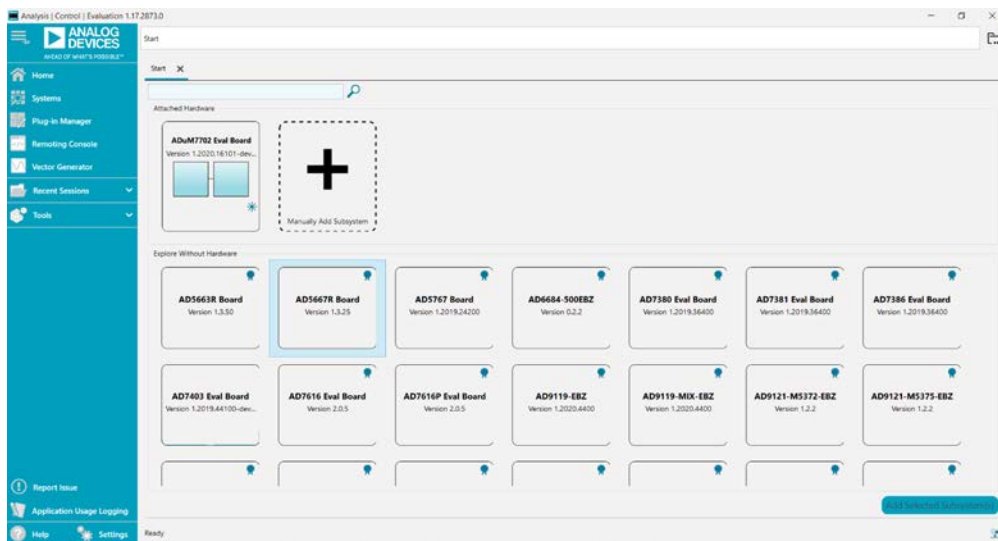
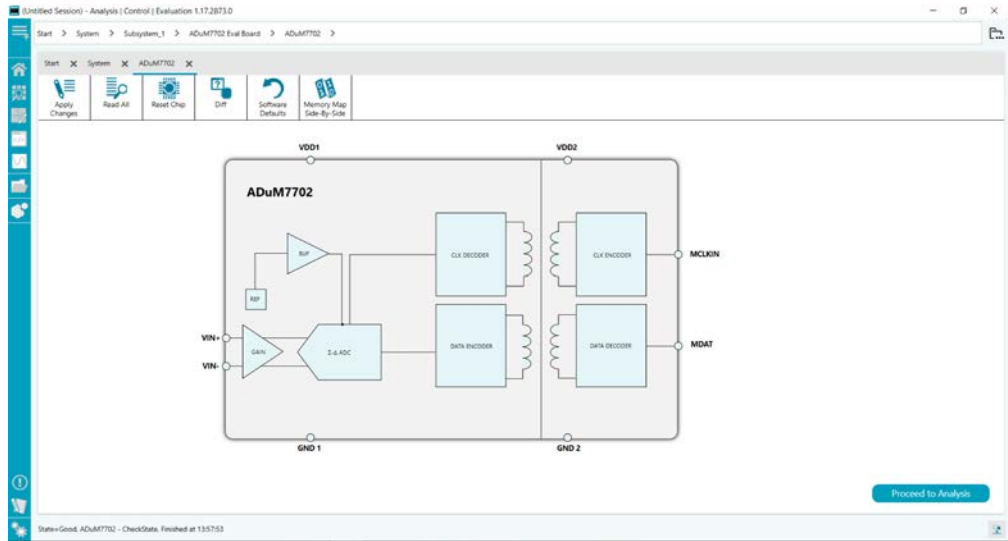
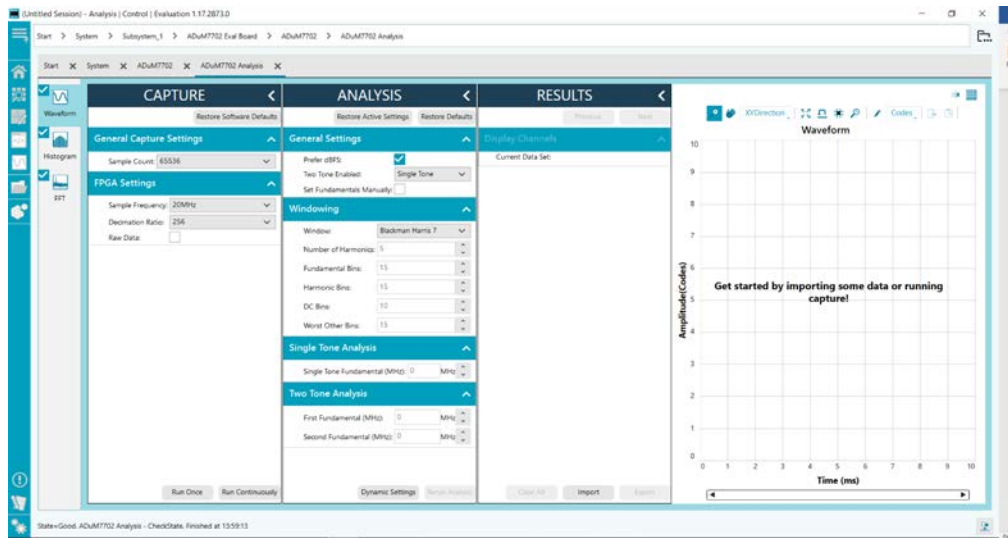

Figure 12. ACE Software Main Window
Figure 13. Chip View Window
Figure 14. Analysis View Window
1. In the **Start** menu of the PC, click **All Programs > Analog Devices > ACE > ACE.exe** to open the ACE software main window shown in Figure 12.
USB port via the SDP-H1 when the ACE software launches, the **ADuM7702 Eval Board** icon does not appear in the **Attached Hardware** section in ACE (see Figure 12). To make the **ADuM7702 Eval Board** icon appear, connect the EV-ADuM7702-8FMCZ and the SDP-H1 to the USB port of the PC, wait a few seconds, and then follow the instructions in the dialog box that opens.
3. Double click the **ADuM7702 Eval Board** icon (see Figure 12) to open the chip view window shown in Figure 13.
Click **Proceed to Analysis** in the chip view window of the ACE software (see Figure 13) to open the analysis view window shown in Figure 14. The analysis view window contains the